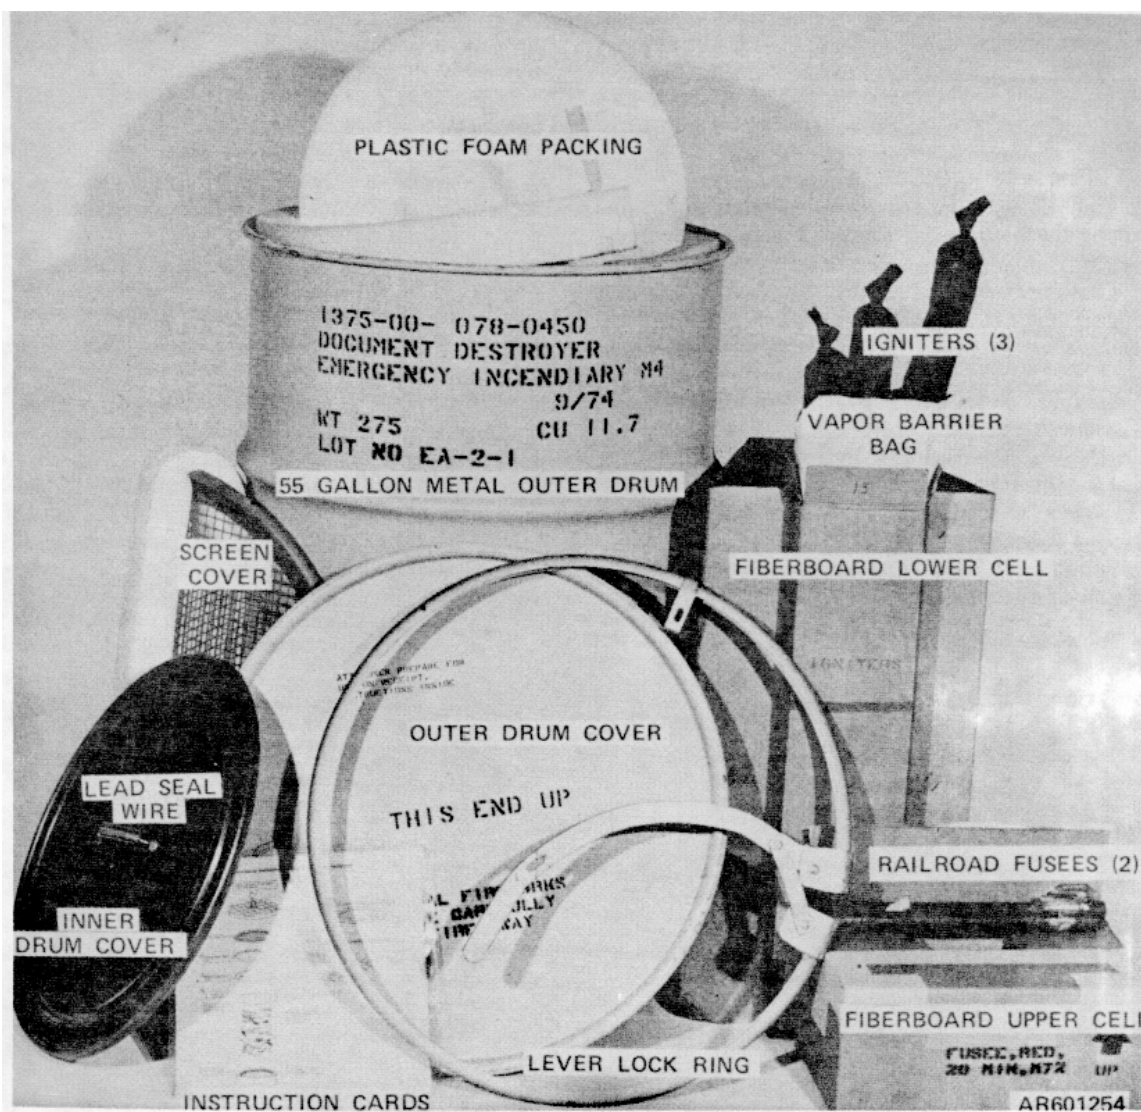

Figure 1-1. M4 emergency incendiary document destroyer.
a. General. The document destroyer (fig. 1-1) consists of a 55-gallon metal outer drum, a screen cover, oxidizing agent, a fiberboard inner drum, 3 igniters, 2